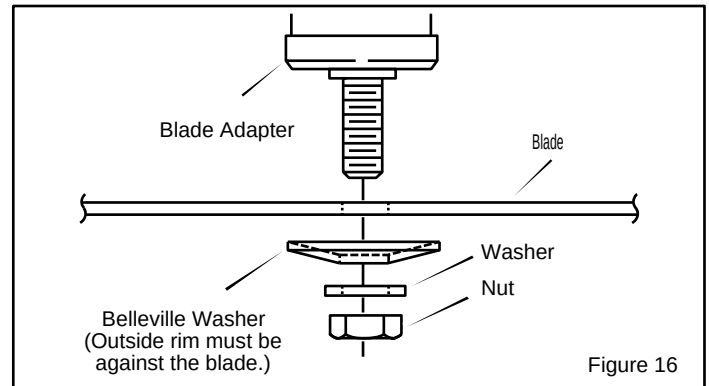

Figure 16
8. Fasten the **blade** with the original washers and **nut**. Make sure the outside rim of the **Belleville washer** is against the **blade** (Figure 16).